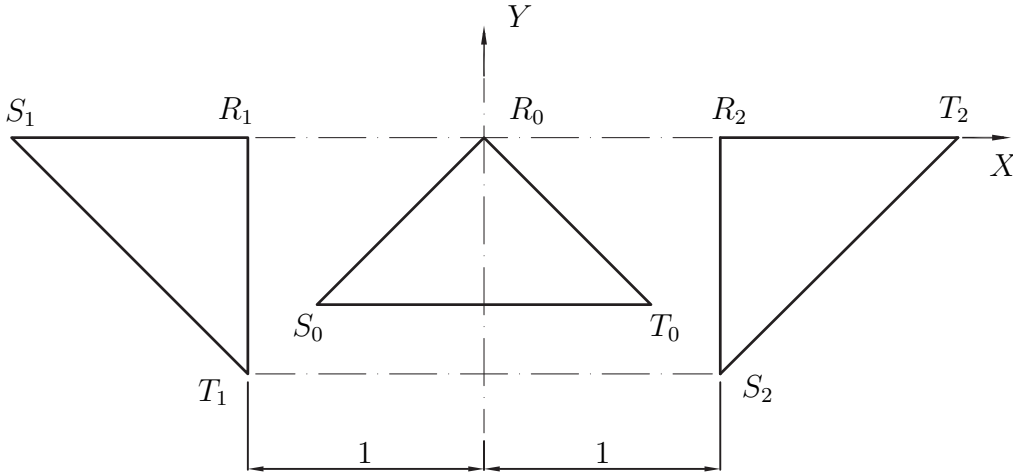

Figure 1: A triangular workpiece to undergo three machining steps in a flexible manufacturing cell, with lengths in m
2. Shown in Fig. 1 is a triangular workpiece RST that will undergo three steps of machining in a flexible manufacturing cell. As this operation will take place for a large batch of workpieces, the manufacturing engineer has decided to use a four-bar linkage to guide the workpiece through the different poses. Space limitations require that the grounded revolute joints have their centres at points $B(-1, 1)$ and $B^*(1, 1)$.